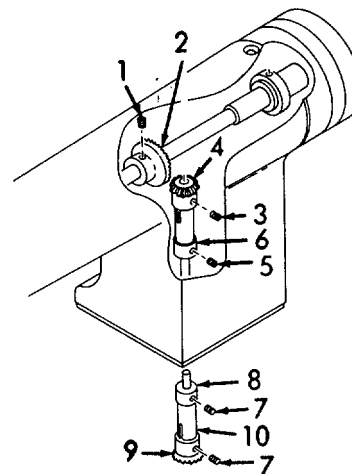

Figure 6-104. Vertical Shaft Assembly, Removal.
(3) Refer to Figure 6-104. Loosen (but do not remove) two set screws (1) in top shaft gear (2). Move top shaft gear forward slightly.
(4) Loosen two setscrews (3) on top vertical shaft gear (4).
(5) Loosen two setscrews (5) on upper vertical shaft collar (6) and two setscrews (7) on lower vertical shaft collar (8).
(6) Pull down lower vertical shaft gear (9) to remove vertical shaft (10).